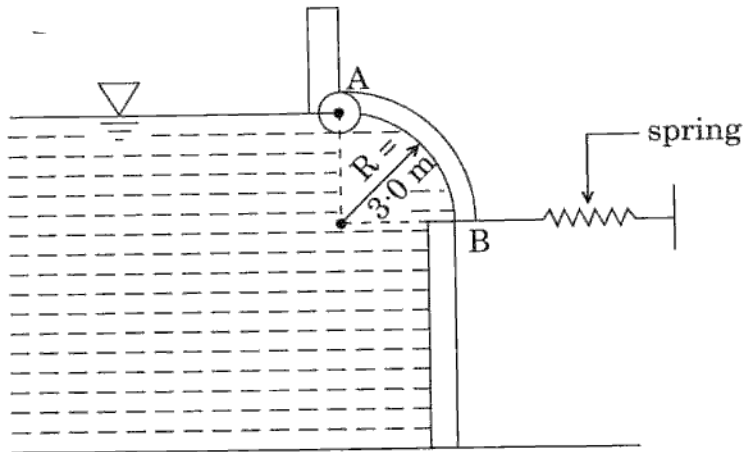

Figure 7(c)
- (c) A 4 m long quarter-circular gate of radius 3 m and negligible weight is hinged about its upper edge A as shown in Figure 7(c). The gate controls the flow of water over the edge at B, where the gate is pressed by a spring. Determine the minimum spring force required to keep the gate closed when the water level rises to A at the upper edge of the gate. Assume the density of water to be 1000 kg/m^3 throughout.